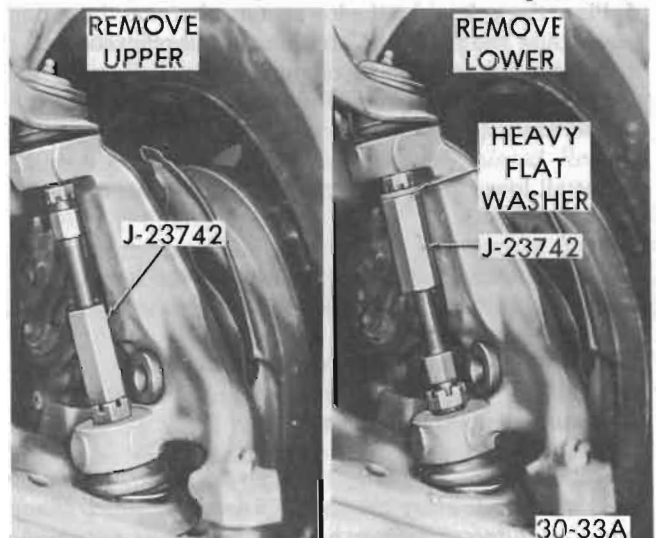

Figure 30-35 - Separating Steering Knuckle from Ball Joint
3. Loosen, but do not remove nut. Force of chassis spring will be tending to disengage ball joint tapered stud from steering knuckle using Tool J-23742-1. See Figure 30-35.